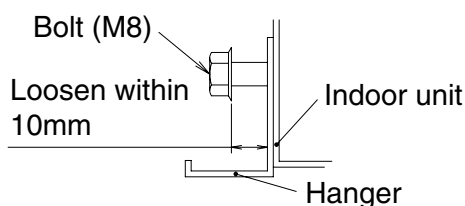
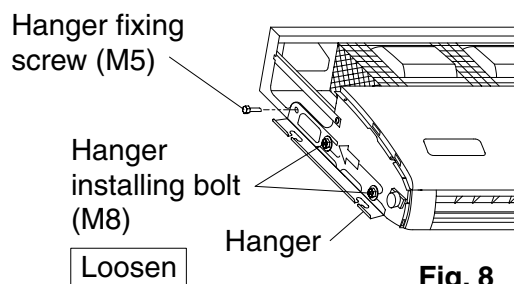

Fig. 7
Fig. 8
- Loosen 2 bolts for installing the hanger at both sides (M8) (4 places at left and right) within 10mm. **(Refer to Fig. 7 and Fig. 8)**
- Remove the fixture screw for hanger at the back side (M5), pull the hanger backward (the arrow direction) to remove. **(Refer to Fig. 8)**